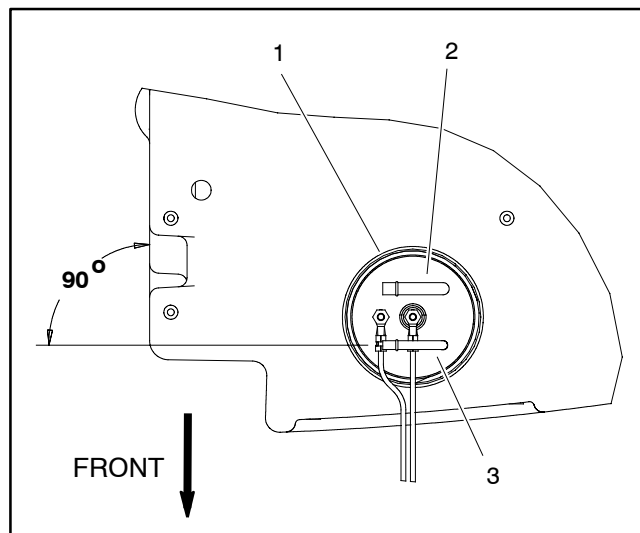

Figure 82
IMPORTANT: Before removing fuel sender from tank, note orientation of fuel sender fittings for assembly purposes (Fig. 82).
10. After testing, install sender into fuel tank and secure with gasket and fuel sender cap. Make sure that fuel fittings on sender are orientated at 90° from right side of tank as shown in Figure 82. Also, to prevent damage to fuel sender during assembly, make sure that fuel sender does not turn as sender cap is tightened.